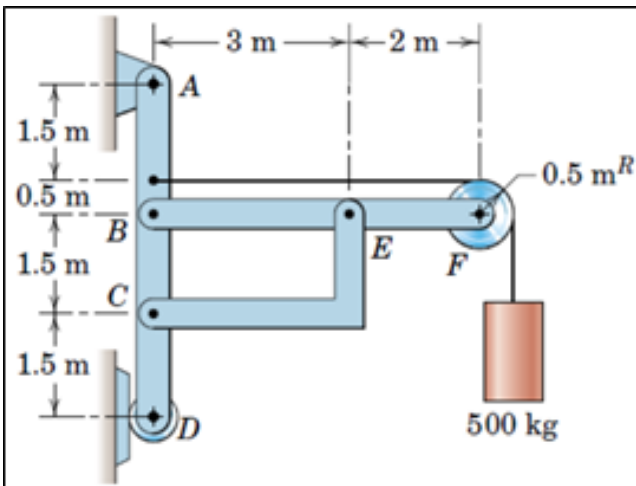

Fig. 5
- Q5.** The frame, shown in Fig. 5 supports a 500-kg load in the manner shown in figure. Neglect the weights of the members compared with the forces induced by the load, compute the horizontal and vertical components of all forces acting on each of the Members. [10 marks]